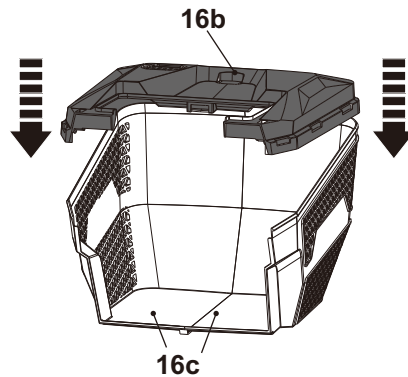

Fig. 5
- Align the front ends of the top cover (16b) and the combination of the bottom cases (16c) of the grass catcher (16). Clip them together starting at the front (Fig. 5).